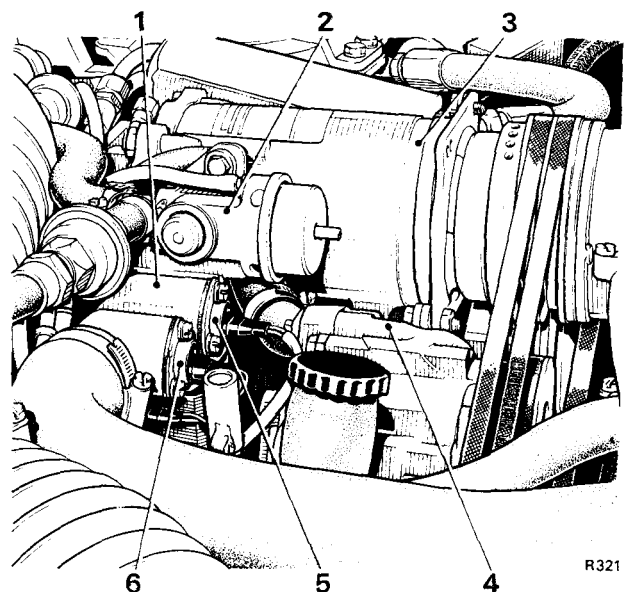

FIG. 8 THERMOSTAT ELBOW CUT-IN SWITCHES
The switch to activate the fan is illustrated in Figure 8.
1. Disconnect the electrical socket from the booster fan cut-in switch (see Fig. 8).